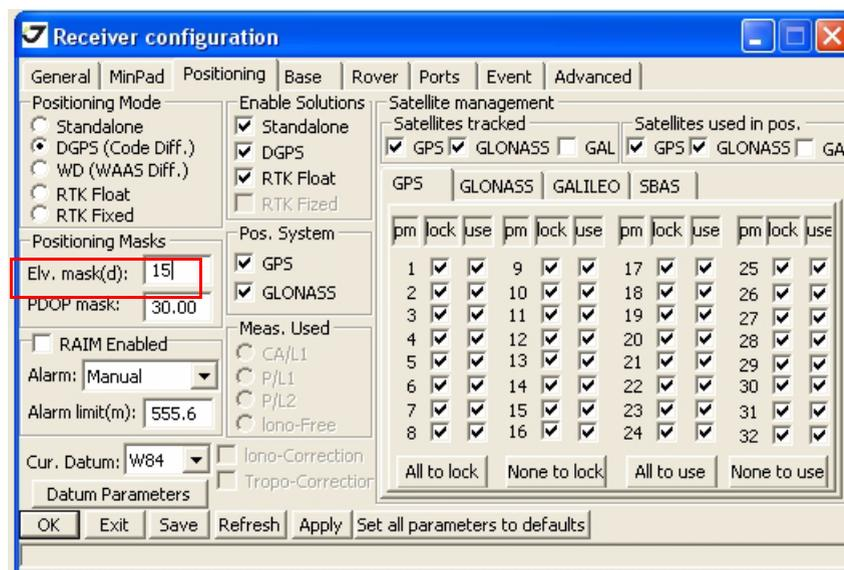

Figure 3-15. Configure Receiver Positioning – Elevation Mask
- Click the *Positioning* tab and set the Elevation mask to 15 (Figure 3-15), then click *Apply*.